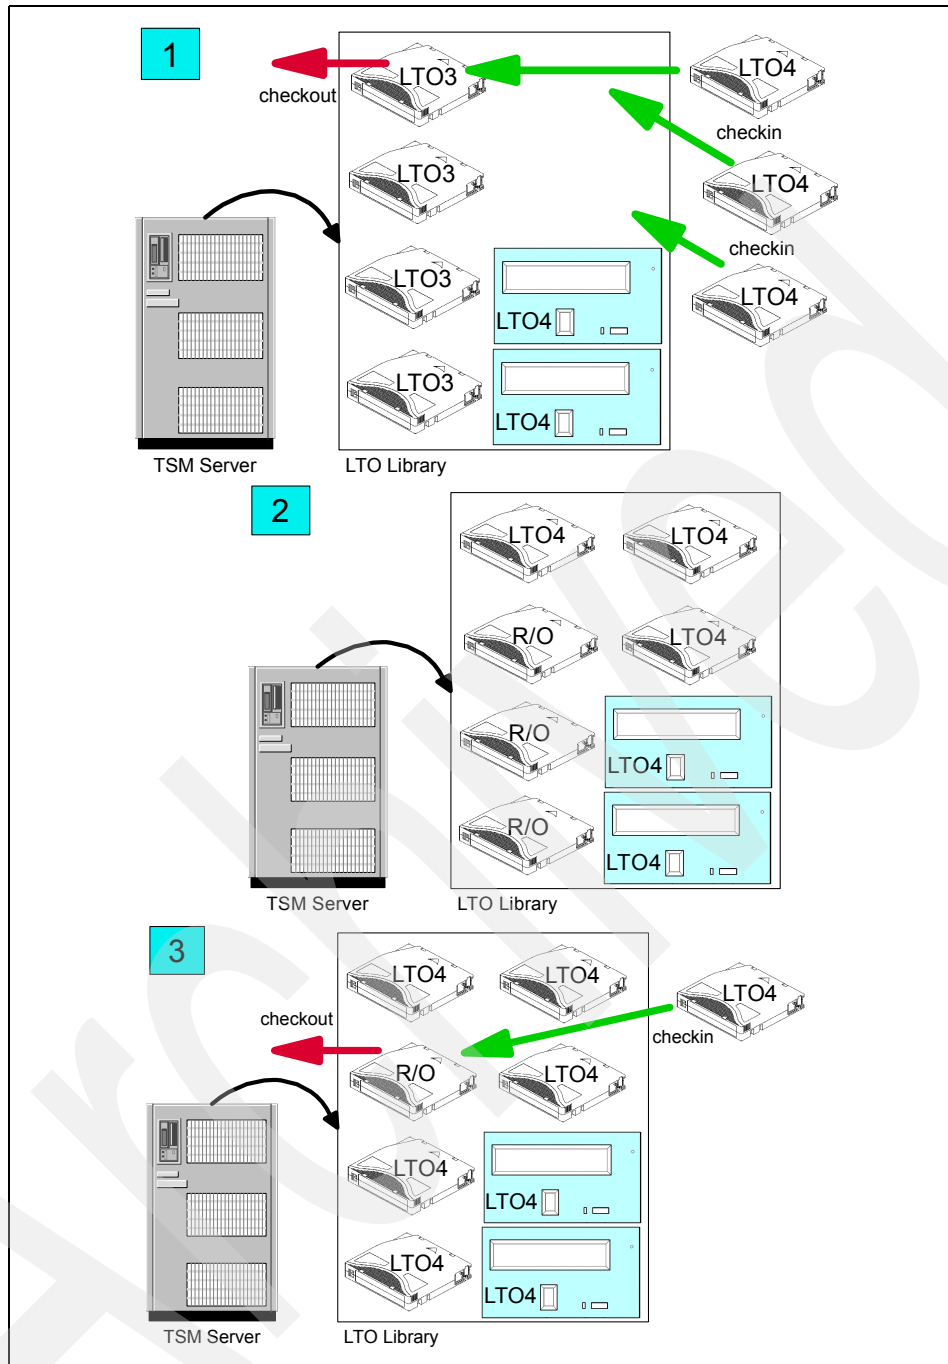

Figure 5-11 Migration scenario 5
2. Remove empty LTO3 media and install LTO4 media (label 1 in Figure 5-11 on page 219).
3. Over time, update the LTO3 media ACCESS to READONLY. This ensures they will then not be written to any more by any Tivoli Storage Manager client or server operation (label 2 in Figure 5-11 on page 219).
6. Once the old LTO3 cartridges are emptied, the cartridges can be checked out of the library and new LTO4 cartridges can be checked in to replace them (label 3 in Figure 5-11 on page 219).